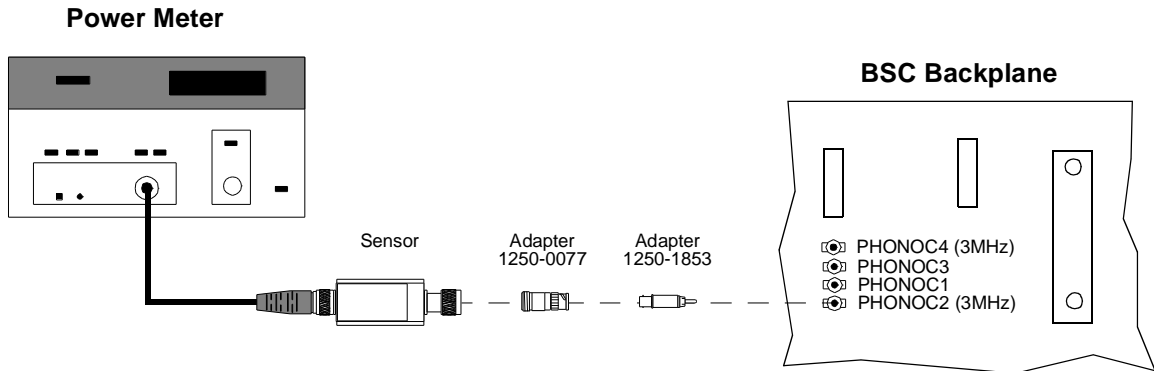

Figure 61 URDM Power Meter Diagram
- 4 Make the connections shown in *Figure 61, "URDM Power Meter Diagram"*.